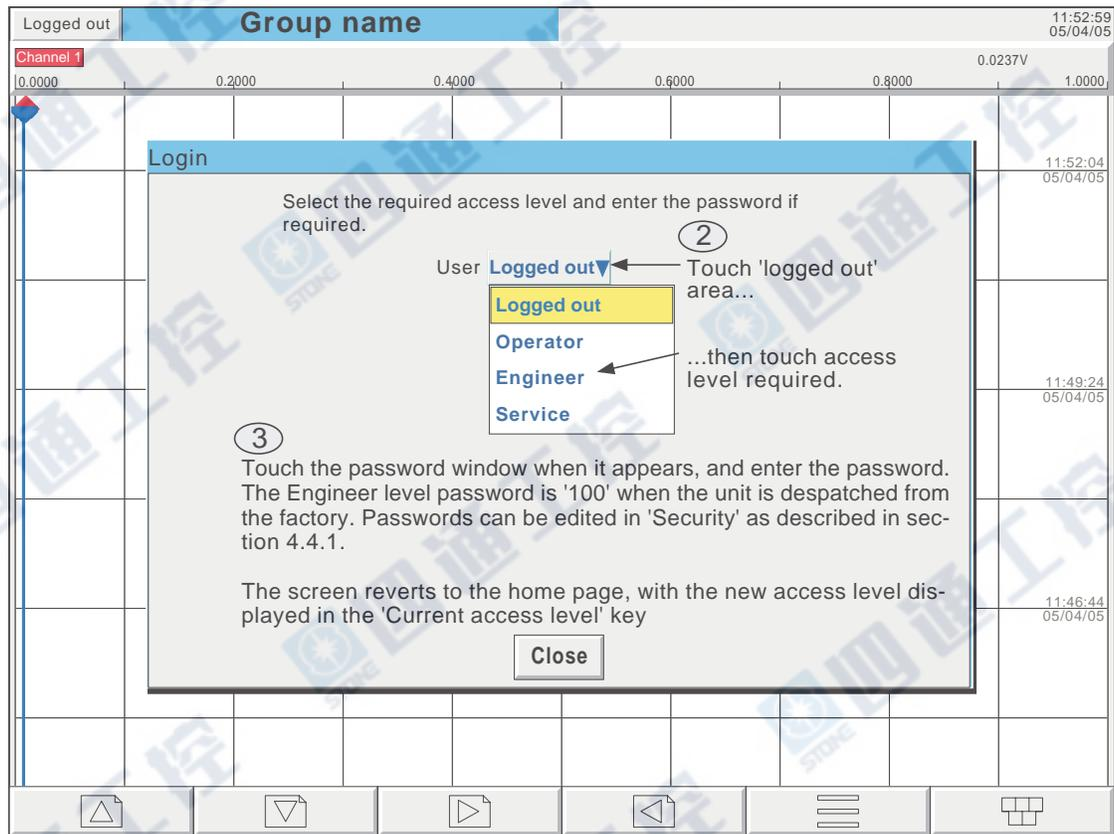

Figure 3.3.1a Access to configuration
- 1 As shown in figure 3.3.1a, once the recorder has initialised, touch the current access level key
3. Figure 3.3.1a shows 'Login by user list' which is the default method. If either Auditor option and/or the Security management option is enabled, an alternative procedure is possible where each user has to enter a name and associated password - i.e. there is no list of users/access levels to choose from. See section 4.4.2 \(Management\) for details.